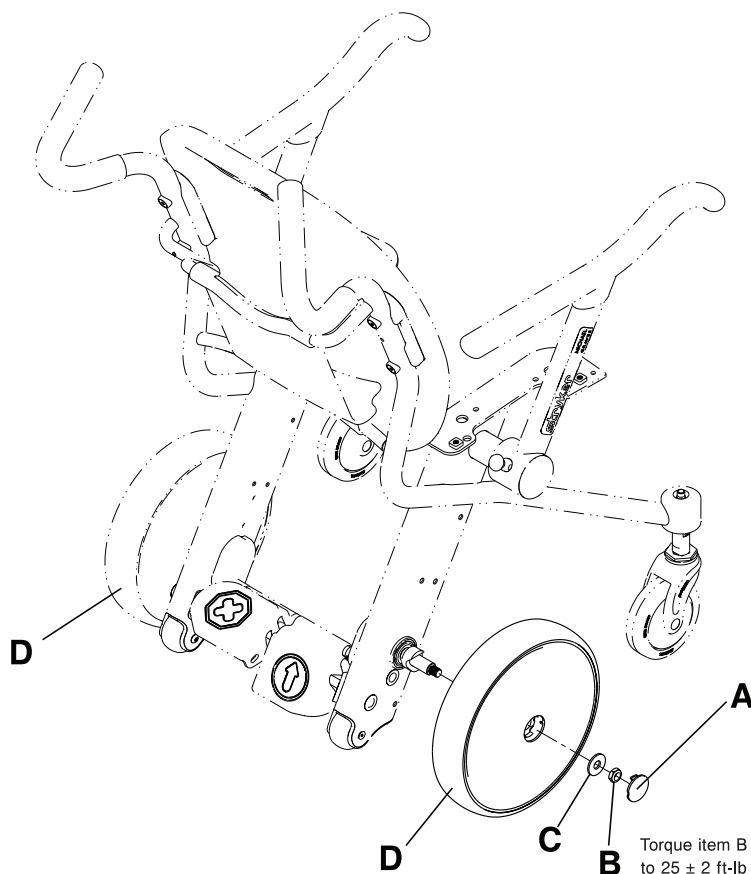

Figure 28: Rear wheel replacement
2. Using a pick, remove and discard the rear wheel center nut cover (A) (Figure 28 on page 45).
3. Using a 3/4" socket and a 3/8" drive ratchet, remove and discard the rear wheel center nut (B) (Figure 28 on page 45).
4. Remove and discard the center washer (C) (Figure 28 on page 45).
5. Grasp the rear wheel with both hands and pull outward to remove the rear wheel (D). Discard the rear wheel.
6. Reverse steps 2-5 to install the supplied rear wheel. Using a 3/8" drive torque wrench, torque the rear wheel center nut (B) to 25 ± 2 ft-lb.